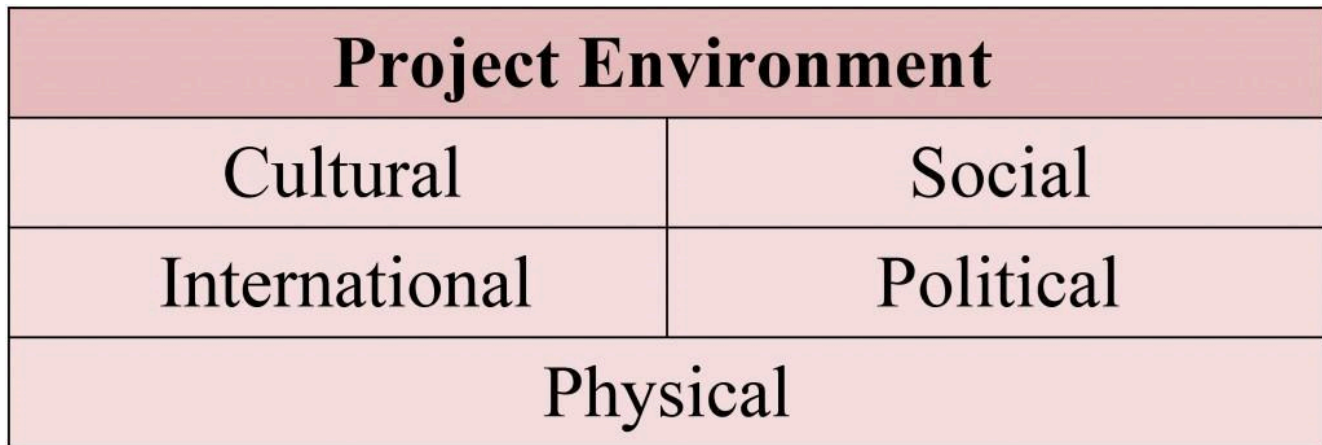

Figure 1.4: The important factors to consider within the project environment.
There are many factors that need to be understood within your project environment (Figure 1.4)4. At one level, you need to think in terms of the cultural and social environments (i.e., people, demographics, and education). The international and political environment is where you need to understand about different countries' cultural influences. Then we move to the physical environment; here we think about time zones. Think about different countries and how differently your project will be executed whether it is just in your country or if it involves an international project team that is distributed throughout the world in five different countries.
4. Figure 1.4 Table from Barron & Barron Project Management for Scientists and Engineers, Source: <http://cnx.org/content/col11120/1.4/>